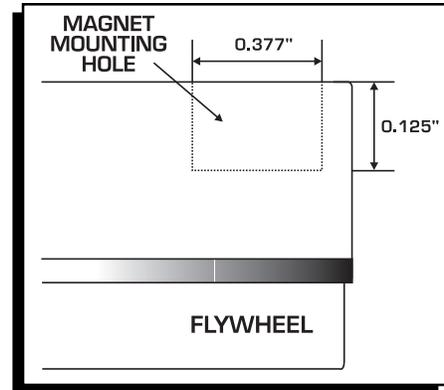

Figure 3 Measuring the Magnet Mounting Hole.
4. The magnet mount is to be 0.125" deep (0.110" - 0.140"). Drill the hole using a 0.377" V-drill bit, stopping to take measurements (Figure 3). Do not drill too deep. Push the magnet into the mount to make sure it sits flush with flywheel surface within +/- 0.015".